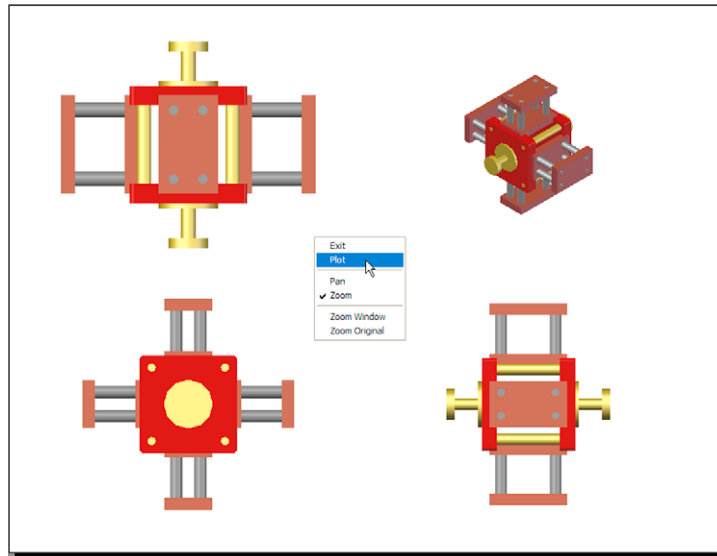

Fig. 15.37 Second example – multiple view copy
### Second example – multiple view copy (Fig. 15.37)
6. If the preview is satisfactory (Fig. 15.37), *right-click* and from the right-click menu click **Plot**. The drawing plots to produce the required four-viewport hardcopy.